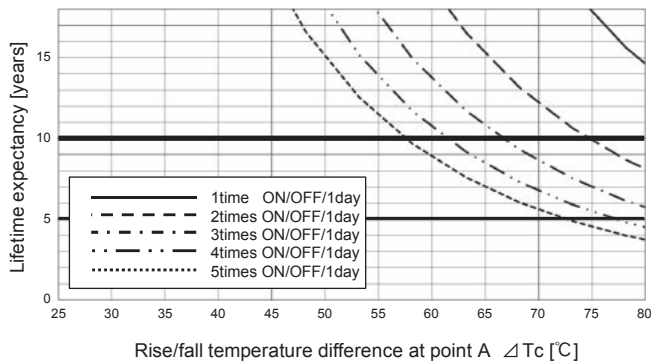
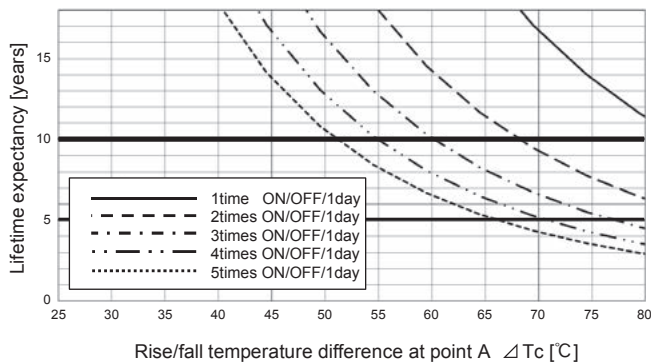
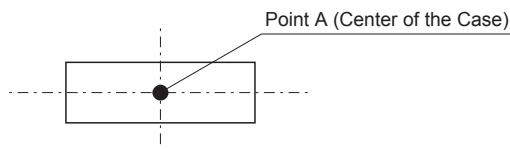

Fig.10.1 Lifetime expectancy against rise/fall temperature difference (MG1R5)
Fig.10.2 Lifetime expectancy against rise/fall temperature difference (MG3)
Fig.10.3 Temperature Measuring Point on the case (Top View)
■ Product lifetime expectancy depends on case temperature difference (T_c) and number of cycling in a day is shown in Fig.10.1, Fig.10.2 (It is calculated based on our accelerated process test result.) If case temperature changes frequently by changing output load factor etc., the above the lifetime expectancy design should be applied as well. And point A which is shown in Fig.10.3 must keep below 110°C.
■ The warranty period is basically 10 years, however it depends on the lifetime expectancy which is shown in Fig.10.1, Fig.10.2 if it is less than 10 years.